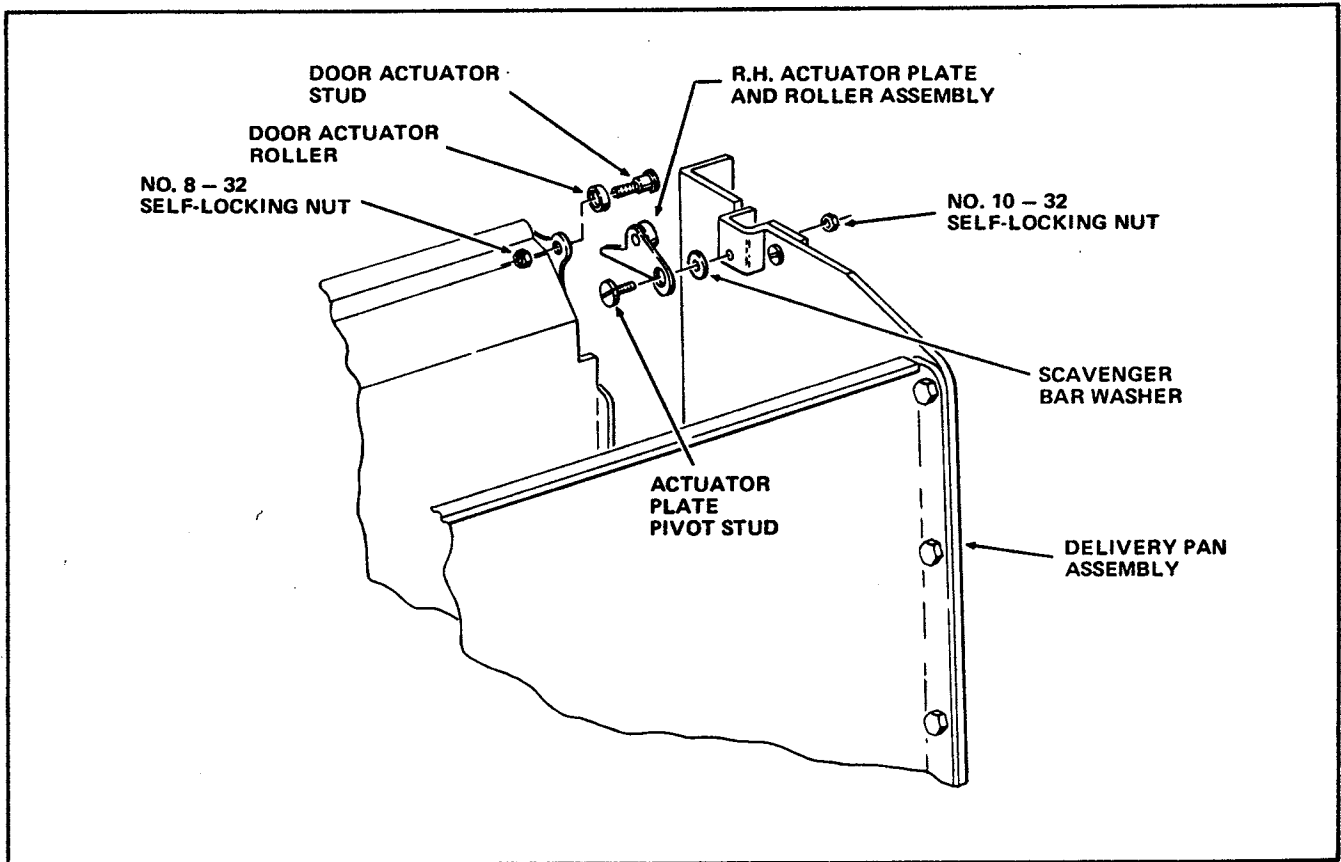

FIGURE 2
4. Using screwdriver and pliers, remove from the Delivery Pan Assembly the following parts: the Self-Locking Nuts, No.8-32, black, 141-2046 (2); the Door Actuator Studs, 141-2090 (2); and the Door Actuator Rollers, 141-2090 (2). (See Figure 2.)
5. Remove the R.H. and L.H. Actuator Plate and Roller Assemblies, 141-2094 (1) and 141-2095 (1); the Actuator Plate Pivot Studs, 141-2045 (2); and the No.10-32 Self-Locking Nuts, 140-7048 (2). (See Figure 2.)